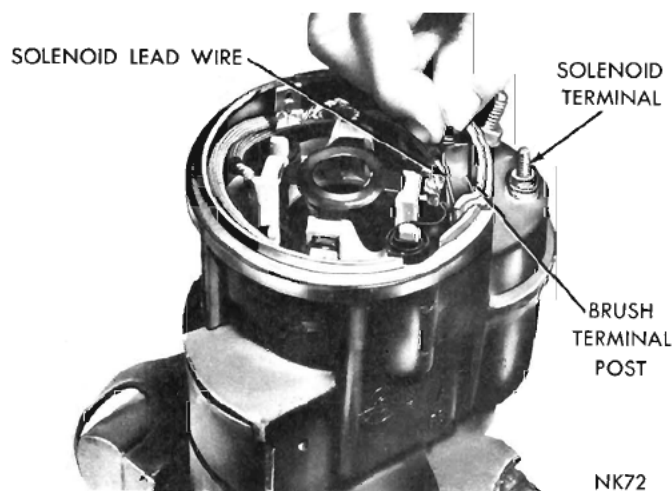

Fig. 4—Unwinding or Winding the Solenoid Lead Wire
(6) Remove all old sealer at the brush holder plate and gear housing.
(7) Unsolder the solenoid lead wire and unwind the wire from the starter brush terminal (Fig. 4).